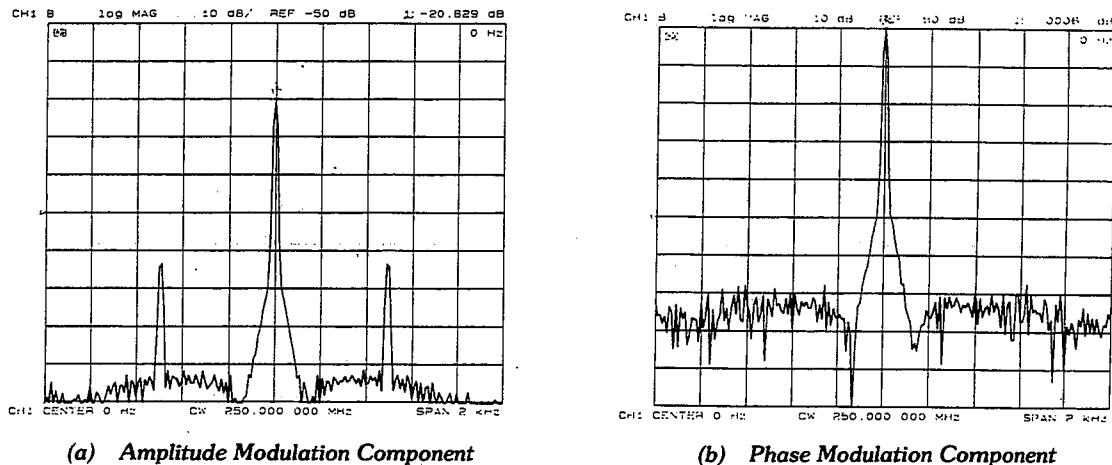

Figure 10-42. Separating the Amplitude and Phase Components of DUT-Induced Modulation
[AMPLITUDE] displays only the amplitude modulation (AM), as illustrated in Figure 10-42 (a).
[PHASE] displays only the phase modulation (PM), as shown in Figure 10-42 (b).